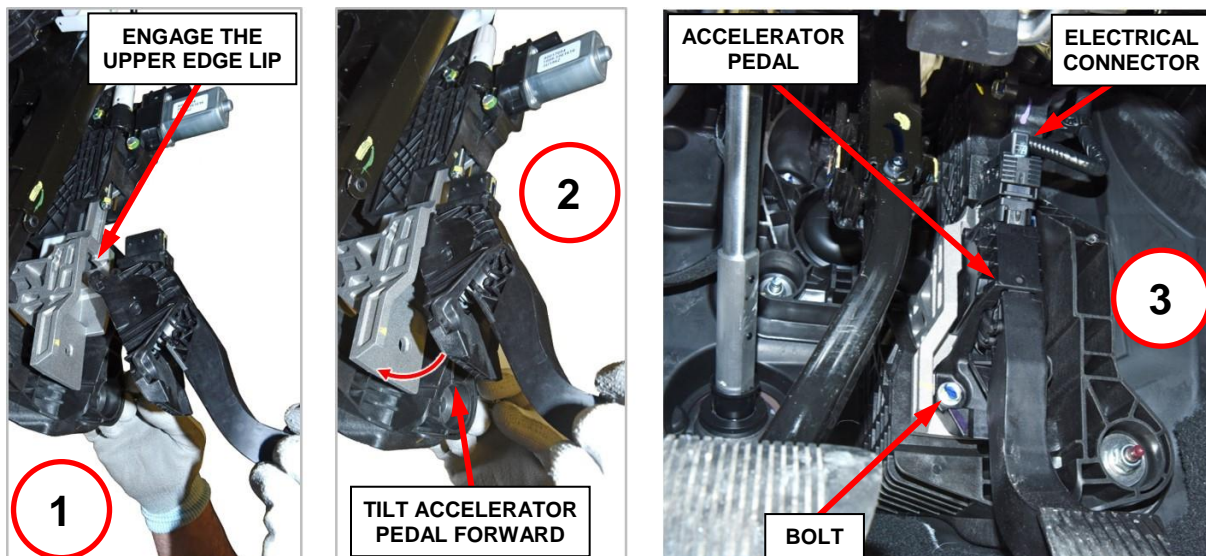

Figure 11 – Install Accelerator Pedal to Adjustable Pedal Assembly
10. Tilt and install the accelerator pedal (Figure 11).
11. Install the bolt securing the accelerator pedal. Tighten the bolt to 8 N·m (71 in. lbs.) (Figure 11).
12. Connect the accelerator pedal electrical connector (Figure 11).